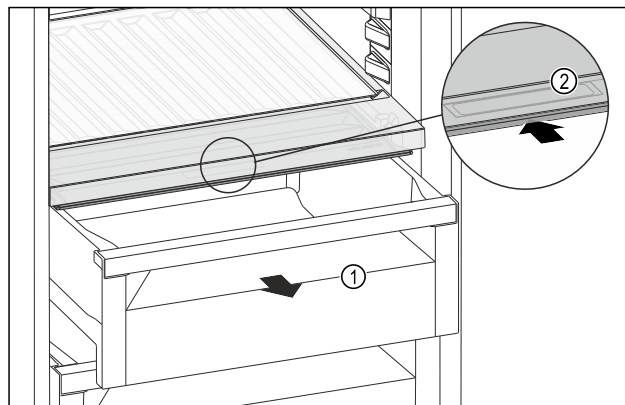

Fig. 229
- Pull out the drawer Fig. 229 (1).